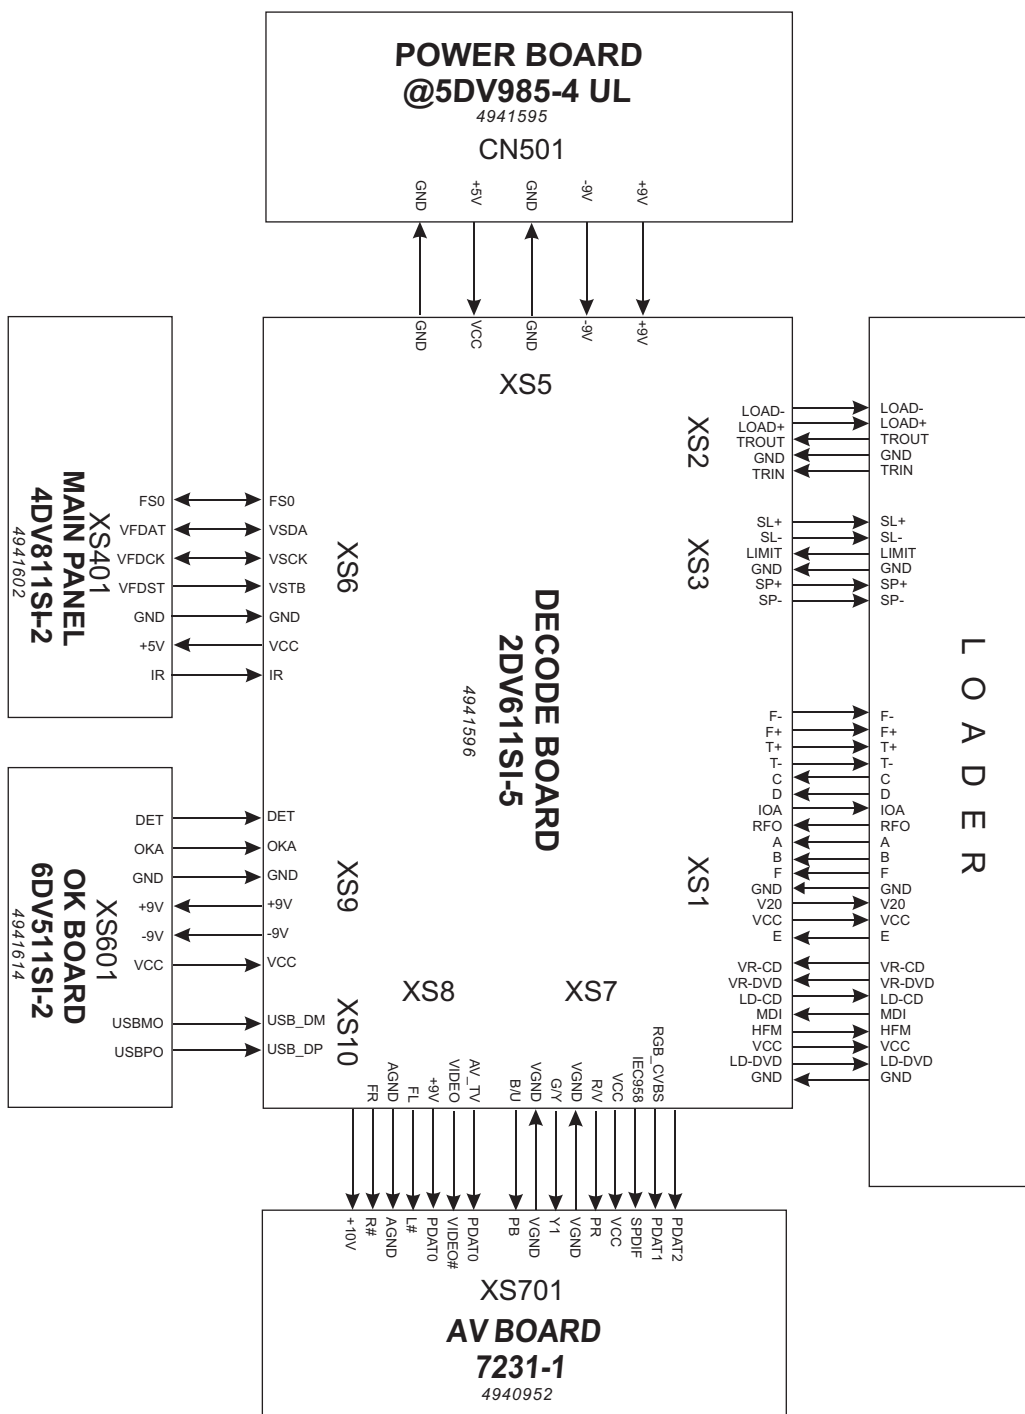

Figure 3.1.1 Overall Wiring Diagram of DV811X(RU)
Overall wiring diagram of DV811X(RU) player is shown in figure 3.1.1.